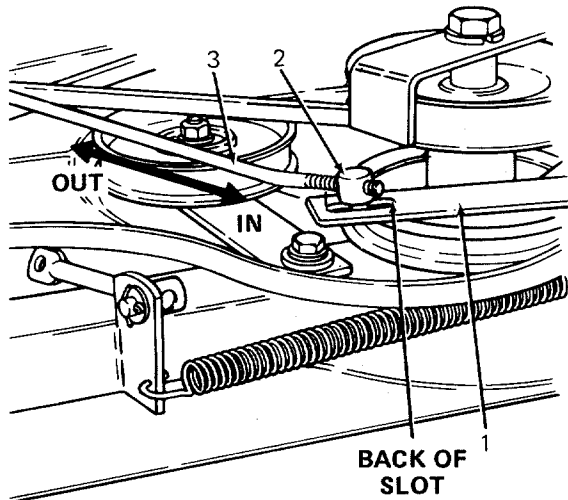

Figure 38
5. Place the brake rod ferrule to the rear of the slot in the brake bracket assembly. (Refer to Figure 38.)
6. Turn the brake rod into (to shorten) or out of (to lengthen) the brake rod ferrule until the hole in the brake rod engages the clutch rod. (Refer to Figure 38.)